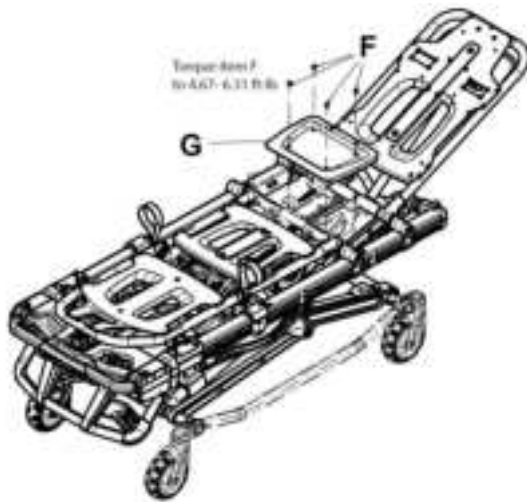

Figure 1
4. Using a T25 Torx driver, remove the four pan head thread rolling screws (F) that secure the seat skin (G) to the cot (Figure 1). Remove and save the seat skin. Save the screws.